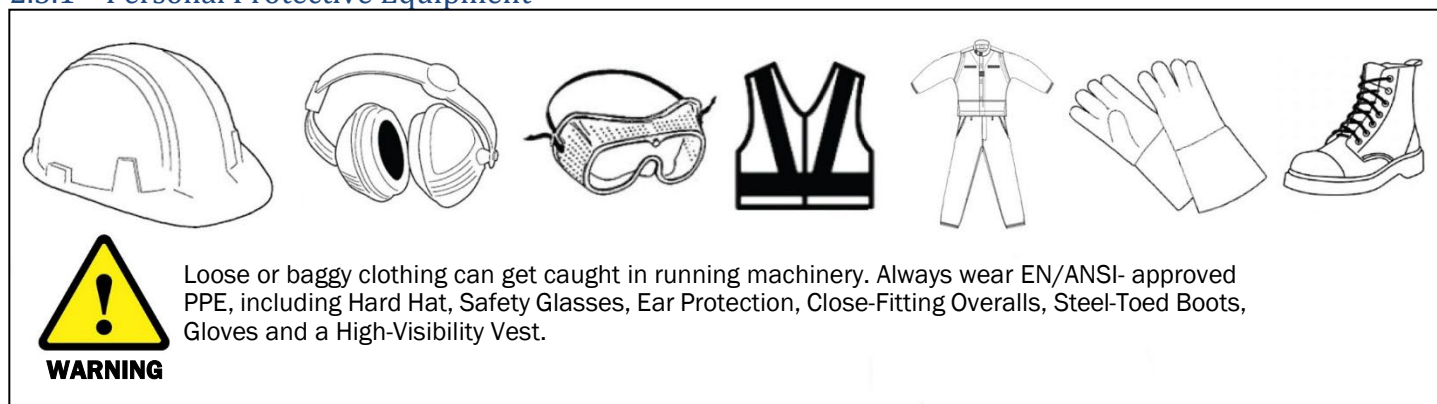

Figure 1: Personal Protective Equipment
- Always wear EN/ANSI-approved PPE, including Hard Hat, Safety Glasses, Ear Protection, Close Fitting Overalls, Steel Toed Boots, a High-Visibility Vest, and Gloves (Figure 1)